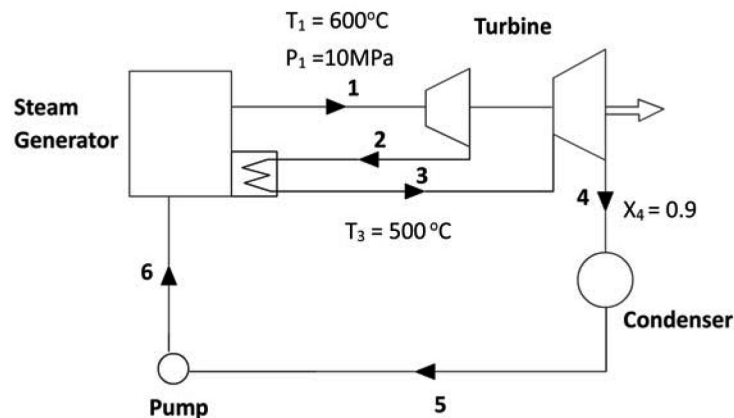

Figure Q5
- b) As shown in Figure Q5, steam at 10 MPa and 600°C enters the first-stage of a turbine of a power plant that operates on the Rankine cycle with reheat. The steam leaving the reheat section of the steam generator is at 500°C. The condenser pressure is 6 kPa. The quality of steam at the exit of the second stage of the turbine is 90% dry.